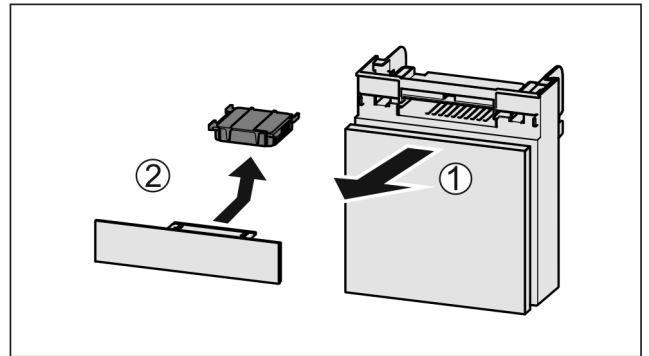

Fig. 237
- ▶ Pull out the compartment Fig. 237 (1).
- ▶ Remove the carbon filter Fig. 237 (2).